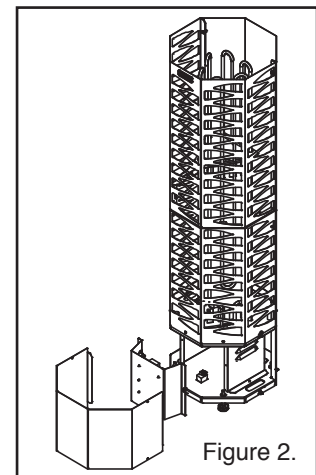

Figure 2.
- Open the control box as shown in figure 2.